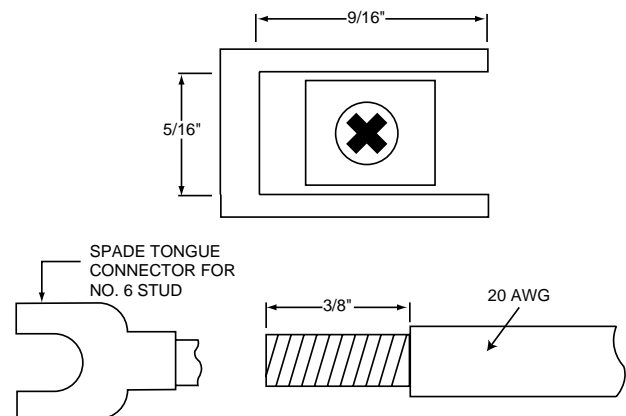

Figure 4.2 Lead Termination
- Both solderless terminals or "stripped" leads as specified in Figure 4.2 below can be used for power leads. Only "stripped" leads should be used for thermocouple connections to prevent compensation and resistance errors.